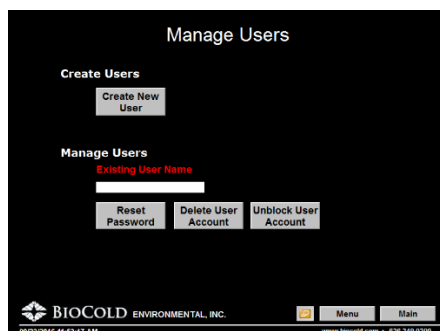

Figure 23. Manage Users Screen
The BioCold BioLogic™ HMI interface incorporates logic designed to ensure that only authorized users can modify various parameters to ensure the chamber integrity. The MANAGE USERS screen (Figure 23) allows the administrator to manage the users for the room via the MENU screen. This screen option is unavailable until an admin or user of higher privilege is authenticated and the button will be selectable by the admin. The administrator has up to four (4) user account management options: create user, delete user, reset user password, and unblock a user.